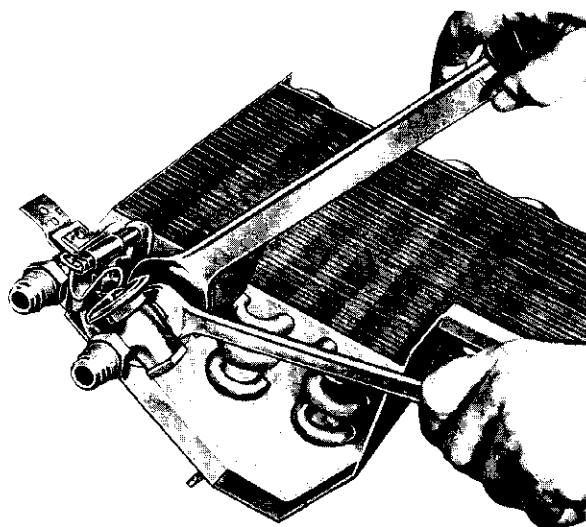

Fig. 4-10—Removing the Expansion Valve (60M-7811)
18. Remove the expansion valve from the evaporator core. (See figure 4-10.)